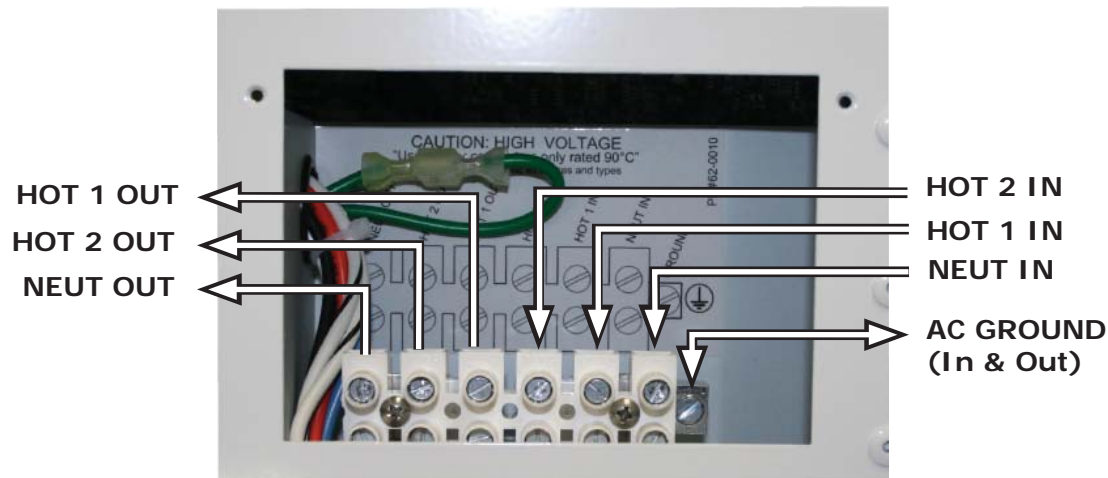

Figure 2-10, AC Terminal Block
The MS Series provides a terminal block (see figure 2-10) that allows the AC input and output wiring to be permanently wired. This terminal block allows a service/distribution panel (main panel) to be wired to the inverter's input and a dedicated panel (sub-panel)¹ between the inverter's output wiring and the AC loads. These systems use the circuit breakers provided in the panels as the overcurrent protection and the AC disconnect device.
1. Remove the two Phillips screws on the AC wiring access cover (item 15 in figure 1-3) to access the internal AC terminal block (see figure 2-10).
AC Side - Where the AC output from the inverter is connected to an AC load center, there should be an equipment grounding conductor connected between the inverter case and the grounding point in the AC load center. The AC Equipment Grounding Conductor (EGC – AC) is sized per Table 2-5 and is connected to the inverter’s AC equipment grounding terminal shown in figure 2-10.